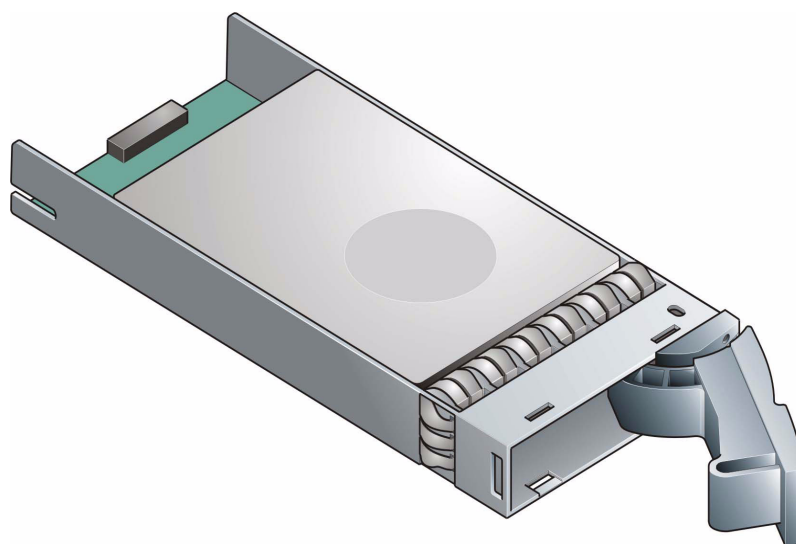

Figure 2-13 Installing a SATA Drive Carrier Module (1)
- 1 Release the carrier handle, by pressing the latch in the handle towards the right and insert the carrier into the enclosure (Figure 2-13).